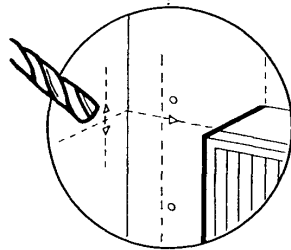

Fig. 39
12. Cut a hole approximately 107mm (41/4 in) diameter in the masonry for the 100mm (4 in) diameter flue duct (Fig. 39). (Use of a core drill is recommended. When using a core drill, it is important to keep the drill level and square, particularly with the wall onto which the boiler is to be fitted).